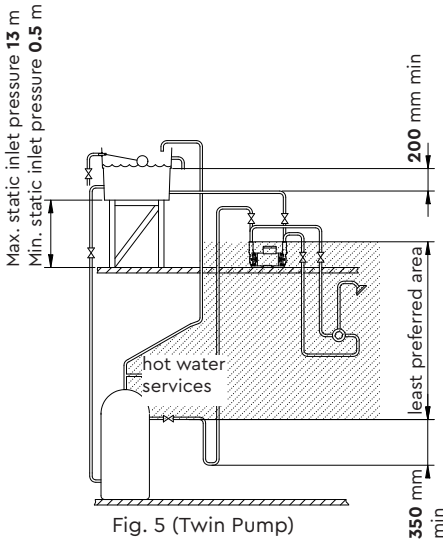

Fig. 5 (Twin Pump)
The use of a Stuart Side Entry (SE) cylinder flange, which should have the addition of an inverted loop ("U" bend) of 350 mm minimum drop before rising to the pump, located as close as possible to the cylinder wall. This will ensure the pump receives an air free supply and the cylinder vents any air up the vent pipe and not the pump feed (Figs. 5 & 6).